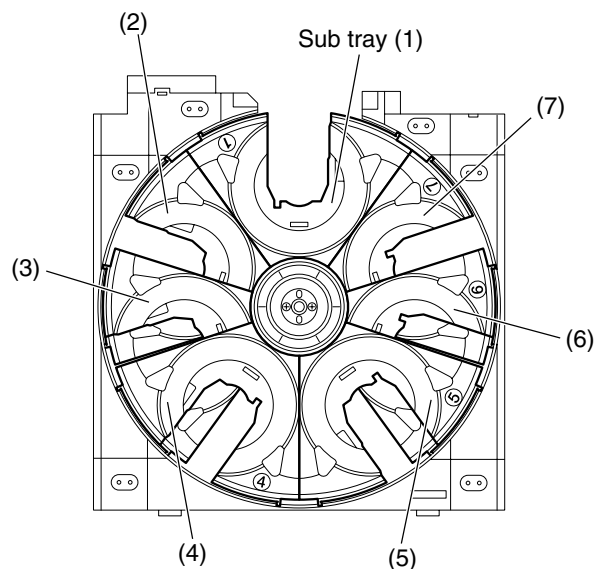

Fig.5
■ Sub tray position and operation check (See Fig.5 and 6)
CAUTION: Make sure the sub trays are set as shown in Fig.5. When moving the sub trays, put the sub trays which come to the position (4) and (5) forward in turn.